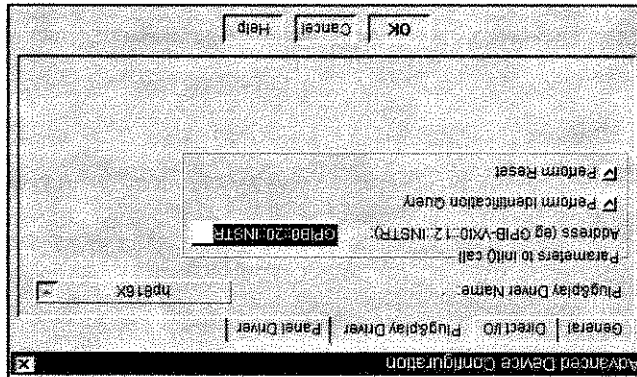

Figure 13 Advanced Device Configuration - Plug&play Driver
- 4 Press Advanced I/O Config . . . , the Advanced Device Configuration box pops up. Select the Plug&play Driver tab, the box in Figure 13 appears.